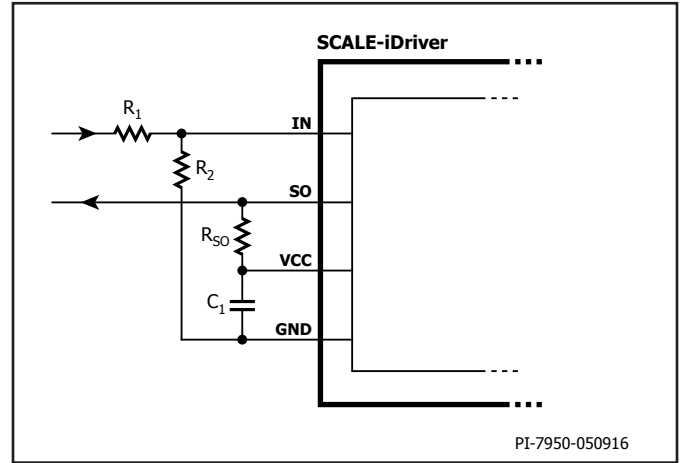
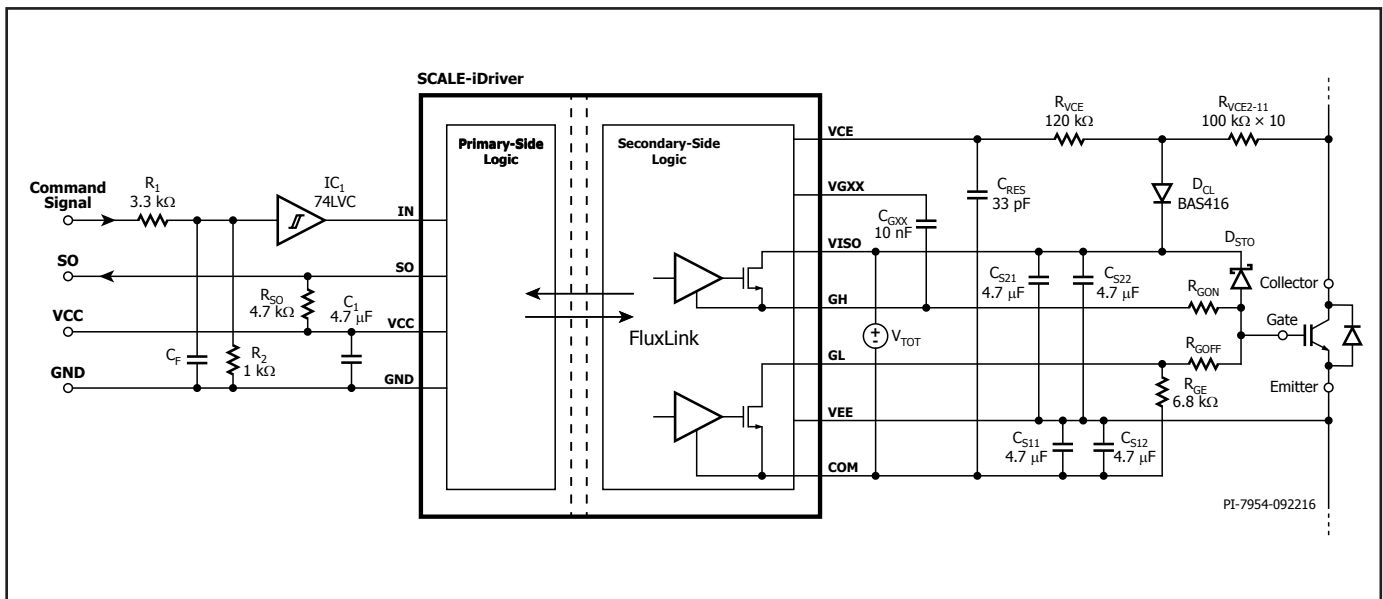

Figure 5. Increased Threshold Voltages V_{IN+LT} and V_{IN+HT} For $R_1 = 3.3 \text{ k}\Omega$ and $R_2 = 1 \text{ k}\Omega$ the IN Logic Level is 15 V.
Figure 13. SCALE-iDriver Application Example Using a Resistor Network for Desaturation Detection.
The input (IN) and output (SO) logic is designed to work directly with micro-controllers using 5 V CMOS logic. If the physical distance between the controller and the SCALE-iDriver is large or if a different logic level is required the resistive divider in Figure 5, or Schmitt-trigger ICs (Figures 13 and 14) can be used. Both solutions adjust the logic level as necessary and will also improve the driver's noise immunity.
and power-down. Any supply voltage related to VCC, VISO, VEE and VGXX pins should be stabilized using ceramic capacitors C_1 , C_{S1X} , C_{S2X} , C_{GXX} respectively as shown in Figures 13 and 14. After supply voltages reach their nominal values, the driver will begin to function after a time delay t_{START} .
Figures 13 and 14 show the schematic and typical components used for a SCALE-iDriver design. In both cases the primary-side supply voltage (V_{VCC}) is connected between VCC and GND pins and supported through a supply bypass ceramic capacitor C_1 (4.7 μ F typically). If the command signal voltage level is higher than the rated IN pin voltage (in this case 15 V) a resistive voltage divider should be used. Additional capacitor C_f and Schmitt trigger IC₁ can be used to provide input signal filtering. The SO output has 5 V logic and the R_{SO} is selected so that it does not exceed absolute maximum rated I_{SO} current.
Figure 13 shows how switch desaturation can be measured using resistors $R_{VCE2} - R_{VCE11}$. In this example all the resistors have a value of 100 kΩ and 1206 size. The total resistance is 1 MΩ. The resistors should be chosen to limit current to between 0.6 mA to 0.8 mA at maximum DC-link voltage. The sum of $R_{VCE2} - R_{VCE11}$ should be approximately 1 MΩ for 1200 V semiconductors and 500 kΩ for 600 V semiconductors. In each case the resistor string must provide sufficient creepage and clearance distances between collector of the semiconductor and SCALE-iDriver. The low leakage diode D_{CL} keeps the short-circuit duration constant over a wide DC-link voltage range.
Figure 15 shows the recommended PCB layout and corresponds to the schematic in Figure 13. The PCB is a two layer design. It is important to ensure that PCB traces do not cover the area below the desaturation resistors or diodes D_{VCE1} and D_{VCE2} . This is a critical design requirement to avoid coupling capacitance with the SCALE-iDriver's VCE pin and isolation issues within the PCB.